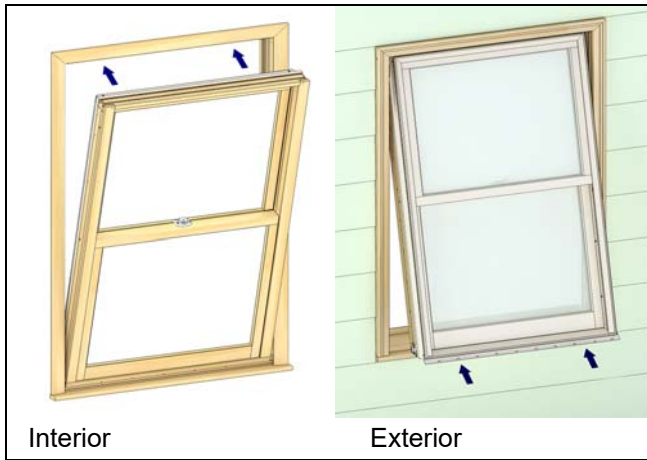

Figure 12
2. Center unit in opening. Depending on interior or exterior installation, press unit against interior sash stop or blind stop. *It is recommended that Picture and Transom units be installed from the interior only.* See Figure 12